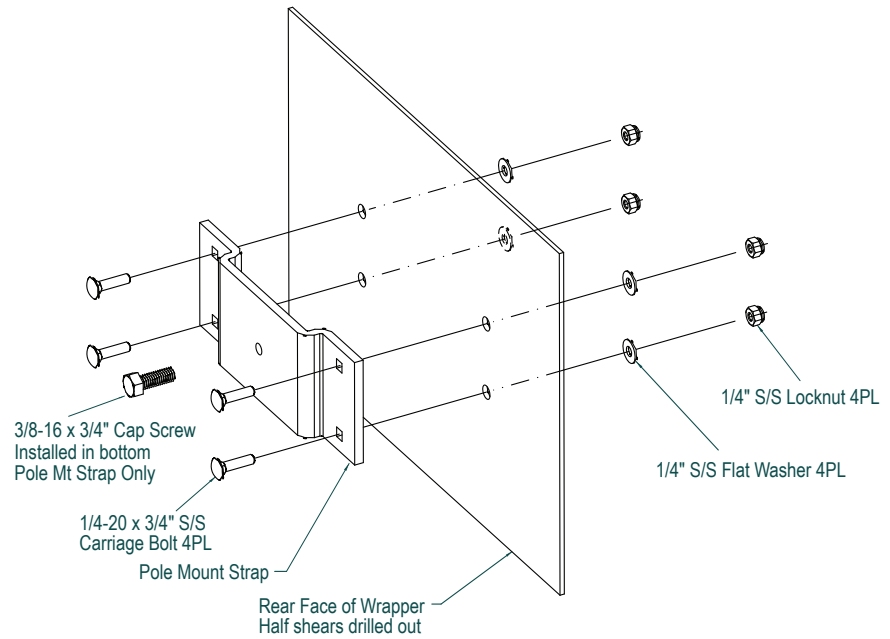

Figure 5.3 – Attaching the strap mount brackets
2. Secure the two pole mount straps to the enclosure with the supplied carriage bolts, nuts and flat washers. (Figure 5.3).